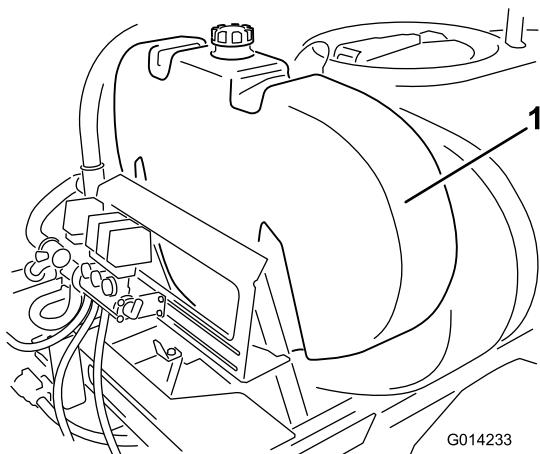

Figure 9
1. Install the rinse tank as shown in Figure 9.